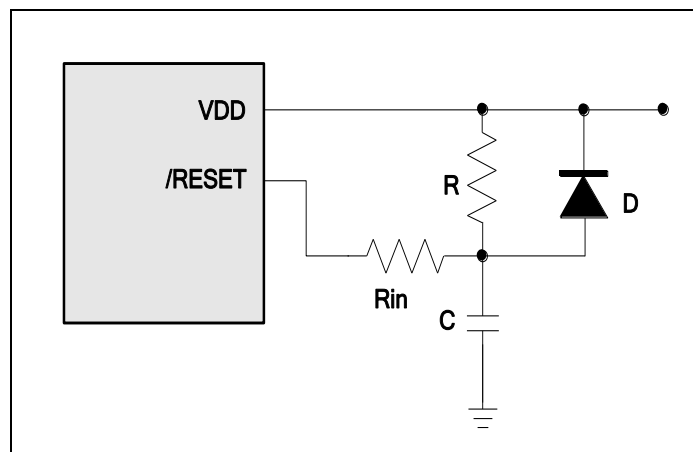

Figure 6-11 External Power-Up Reset Circuit
The circuit diagram in Figure 6-11 implements an external RC to generate the reset pulse. The pulse width (time constant) should be kept long enough for V_{DD} to reach minimum operational voltage. Apply this circuit when the power supply has a slow rise time. Since the current leakage from the /RESET pin is about $\pm 5\mu\text{A}$, it is recommended that R should not be greater than 40K Ω in order for the /RESET pin voltage to remain at below 0.2V. The diode (D) functions as a short circuit at the instant of power down. The capacitor (C) will discharge rapidly and fully. The current-limited resistor (R_{in}) will prevent high current or ESD (electrostatic discharge) from flowing into the /RESET pin.